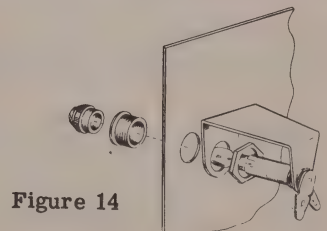

Figure 14
- ⑱ () Connect the other end to L1 (S).
- ⑭ () Connect a wire from G1R3 (S) to M3 (S).
- ⑳ () Run a piece of bus wire from G2R2 (S) to BT1 (S).
- ⑬ () Run a wire from G1F1 (S) to U2 (S).
- ⑫ () Run a wire from G1F12 (S) to M1 (S).
- () Strip 1" of insulation from one end of a piece of wire. Pass this through G1R11 (NS) to G2R11 (S). Now solder G1R11.
- ⑮ () Connect the other end to BP4 (S).
- ㉒ () Run a piece of bus wire from G2R8 (S) to BT2 (S).
- ⑰ ~~()~~ Connect a wire from G1F7 (S) to the ground lug at L (S).
- ⑯ () Connect a wire from G1R9 (S) to H2 (S).
- () Mount the pilot light in position PL. Refer to Figure 14.